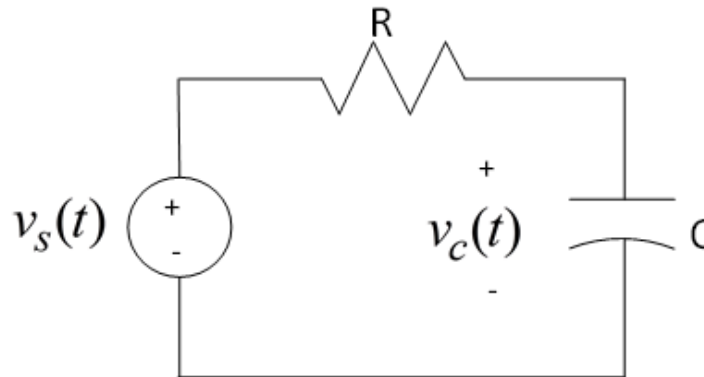

Figure 2: First order system (RC Circuit)
1. The RC circuit in Figure 2 represents a first order system. Build the circuit on the breadboard with $R = 1 \text{ k}\Omega$ and $C = 1 \text{ }\mu\text{F}$. The input will be the function generator and the output will be the voltage across the capacitor.